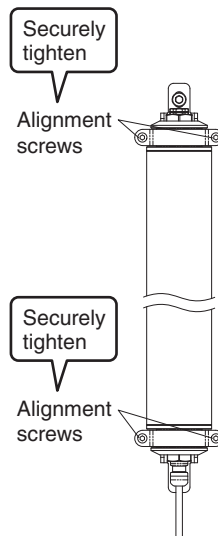

Fig. 5
- 5.** Securely tighten the beam alignment screws to fix the sensor housing. The recommended torque to tighten these screws is 3.0 N•m (Fig. 5).